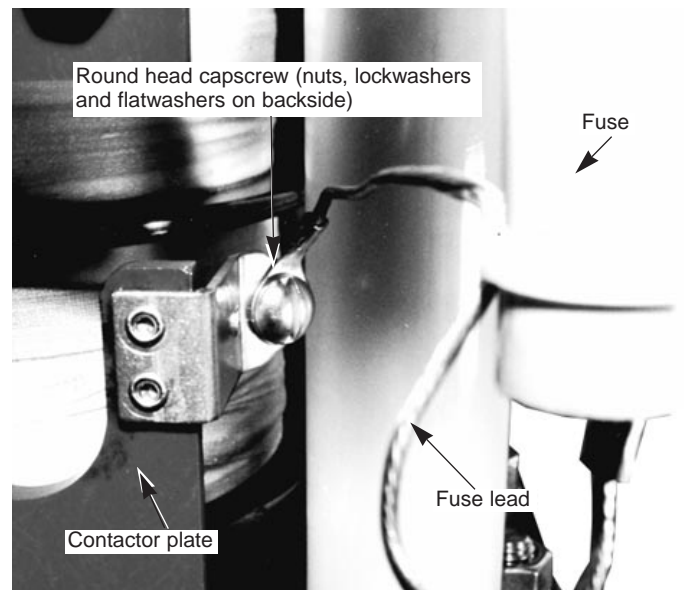

Figure 7.
7. Remove the round head capscrews, hex nuts, bronze lockwashers and brass flatwashers from the contactor plate used to connect the fuse leads, and discard the hardware (refer to Figure 7).